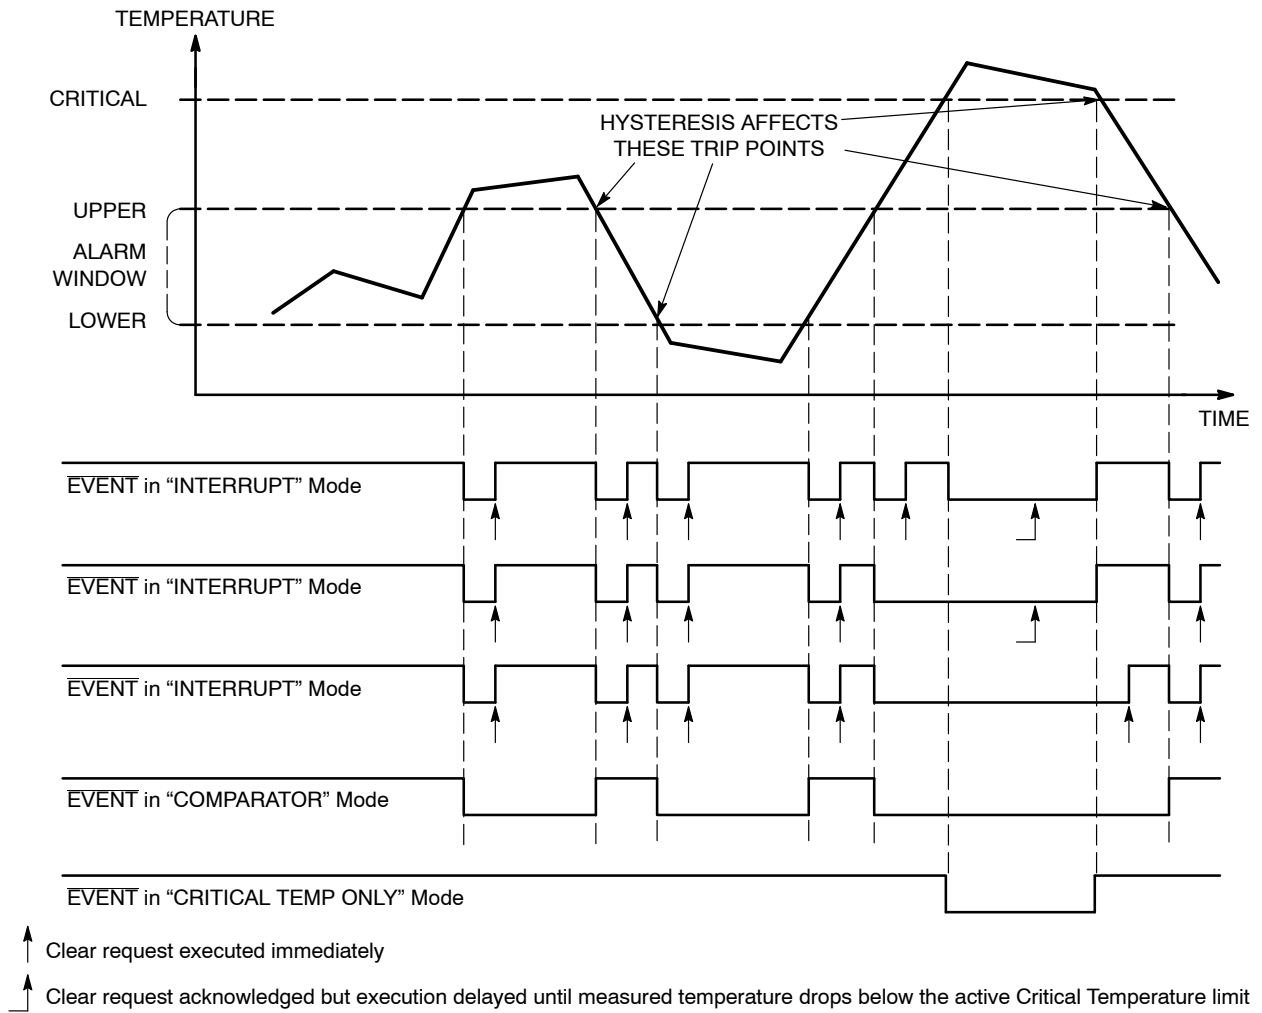

Figure 9. Event Detail
13. Writing a '1' to this bit clears an event condition in Interrupt mode, but has no effect in comparator mode. When read, this bit always returns 0. Once the measured temperature exceeds the critical limit, setting this bit has no effect (see Figure 9).
The  $\overline{\text{EVENT}}$  output reacts to temperature changes as illustrated in Figure 9, and according to the operating mode defined by the Configuration register.